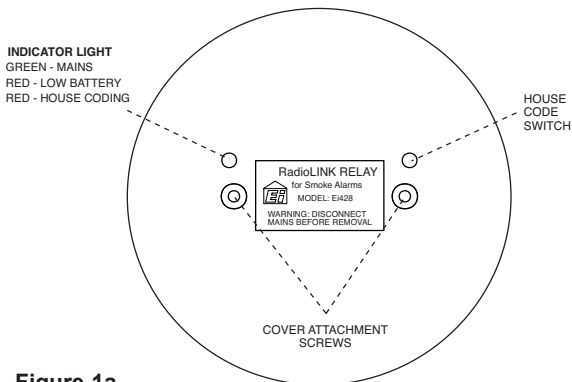

Figure 1a
10. Press and hold the House Code switch through the hole in the cover using a small screwdriver, see figure 1a, until the green light changes to red. Release the switch and the light will flash red quickly, a few times. The red light will then flash every 5 seconds. Similarly, put all the other RadioLINK units in the property into House Code Mode (see relevant user instructions) within 30 minutes.